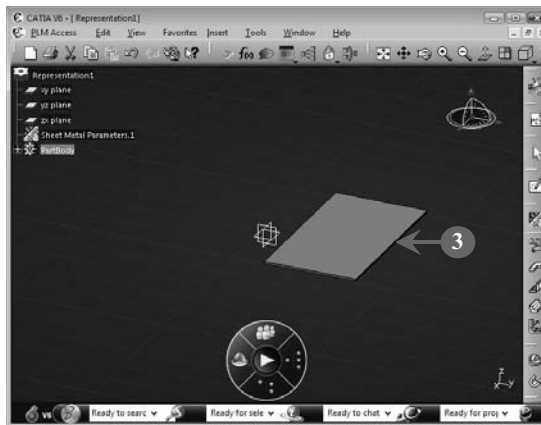

FIGURE 6.24
2. *Create* a base wall (**Figure 6.24**).
3. *Select* the edge of the base wall on which you want to create a flange, as shown in Figure 6.24: